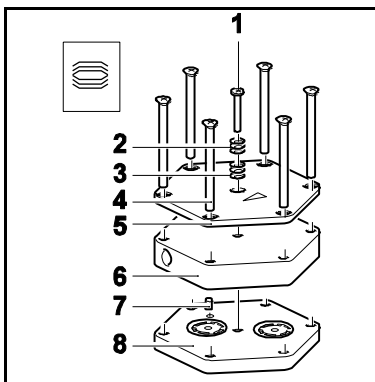

Fig. 10: Refitting pump head
1. On the pneumatic head connection (3), loosen the union nuts (2) by hand. Then slightly loosen the angle-fitting (1) in the pump head (4) by turning it anticlockwise, so that the connecting tube can be pulled out.
2. On both pump heads mark the position of top plate (fig. 10/5), head plate (fig. 10/6), intermediate plate (fig. 11/8) and adapter relatively to each other by a drawing line with a felt-tip pen. This helps to avoid incorrect assembly later.
3. Loosen the outer screws (5) on the pump head/pump heads.
2. Place the intermediate plate (8) with valve plates/sealings on the adapter in accordance with the felt-tip pen marking.
3. Place the head plate (6) on the intermediate plate (8) in the position indicated by the guide pin (7).
4. Place the top plate (5) on the head plate (6) in accordance with the felt-tip pen marking.
5. Gently tighten screws (4) in diagonal order.
6. Insert screw(s) (1) with disk springs (2, 3) in the center of the top plate (5). In doing so, make sure that the disk springs are arranged properly (see fig. 10).
7. Screw in the screw/screws (1) in the centre of the pump top plate (5) until it is flush with the top plate (they are flush with the top plate); then screw one final half turn to tighten.
After diaphragm and valve plates/sealings have been replaced.	<ul style="list-style-type: none"> → Check that the spacers have been replaced onto the diaphragm screw thread. → Check head connection and hose connections. → Possibly carefully tighten the outer screws (fig. 10/4) of the top plate crosswise.